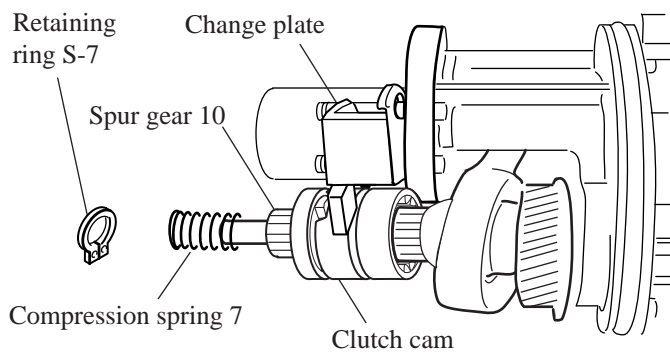

Fig. 11F
8. Assemble compression spring 7 to cam shaft, and fix the parts on cam shaft with retaining ring S-7 as illustrated in Fig. 11F.